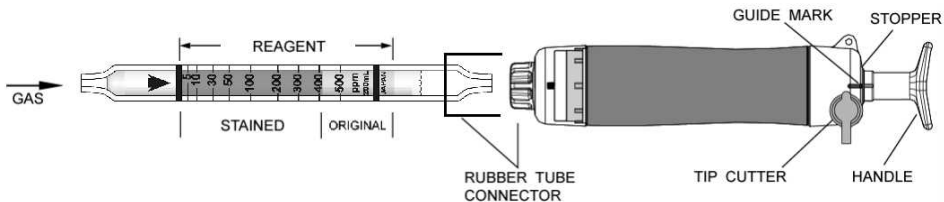

Fig.1
- ② Insert the detector tube into the aspirating pump securely as shown in Fig.1. (Arrow mark shall point to the pump.)
- ③ Align the guide marks on the shaft and stopper of the aspirating pump.
- ④ Pull the pump handle at a full stroke until it locks and wait for 1.5 minutes or until the completion of sampling is confirmed with the flow indicator of the pump. (See descriptions about the flow indicator in the instruction manual of the pump.)
- ⑤ Push back the handle without removing the detector tube from the rubber tube connector so that air in the pump will be discharged perfectly. Then repeat the step ③ ~ ④ once more.
- ⑥ On completion of sampling, read the scale at the maximum point of the stained layer.